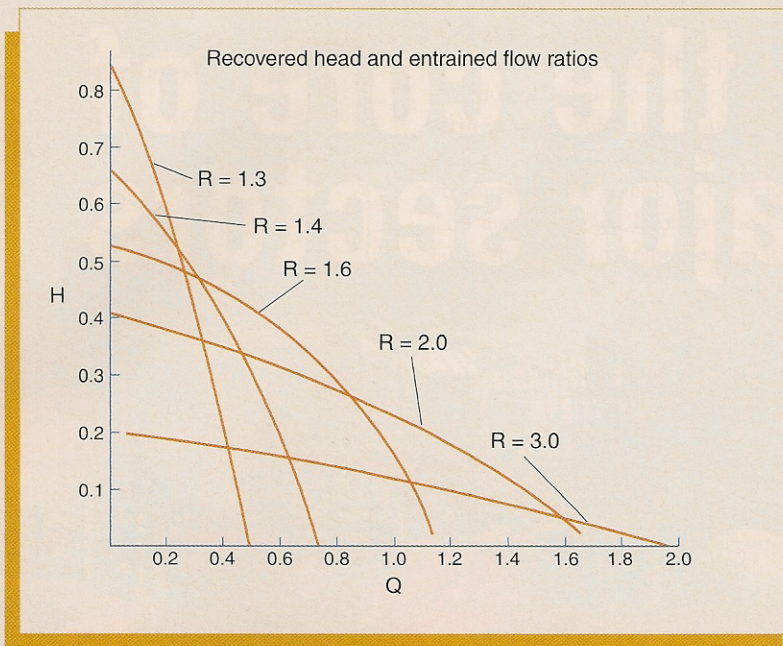

Figure 5. Relationship between recovered head and drive pressure.
Fig. 5 gives the relationship between the drive pressure and the recovered head. The recovered head is that pressure measured at discharge end of the taper, just as with any centrifugal pump with which we are all familiar. This is designated H. The recovered head is always less than the drive head. Typically only 30% of the drive pressure is seen at the discharge of the eductor pump.
2. Select an **R** ratio curve in the middle of Fig. 5 and select a point on that curve near a b.e.p.
11. When handling viscous materials (9) also applies. This is an energy transfer device like a centrifugal pump.